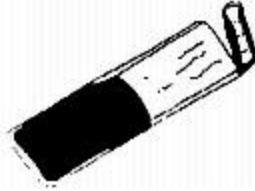

FIG. 2
6. Squeeze resin to one end of bag, and cut off other end (FIG. 2).